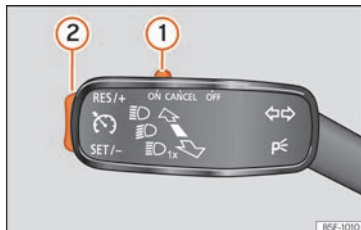

Fig. 54 Left of the steering column: CCS switch and controls.
- Switching on the CCS: Move switch » Fig. 54 ① to **ON**. The system is on. If no speed has been programmed, the system will not control it.
- Activate the CCS: Press button » Fig. 54 ② in the **SET/-** area. The current speed is memorised and controlled.
- Temporarily switching off the CCS: Move switch » Fig. 54 ① to **CANCEL** or push the brake. The cruise control system is switched off temporarily.
- Reactivating the CCS: Press button » Fig. 54 ② in **RES/+**. The memorised speed is saved and controlled again.
- Increasing stored speed during CCS regulation: press button ② in **RES/+**. The vehicle accelerates until the new stored speed.
- Reducing stored speed during CCS regulation: press button ② in **SET/-** to lower the speed by 1 km/h (1 mph). Speed is reduced until reaching the new stored speed.
- Switching off the CCS: Move switch » Fig. 54 ① to **OFF**. The system is disconnected and the memorised speed is deleted.